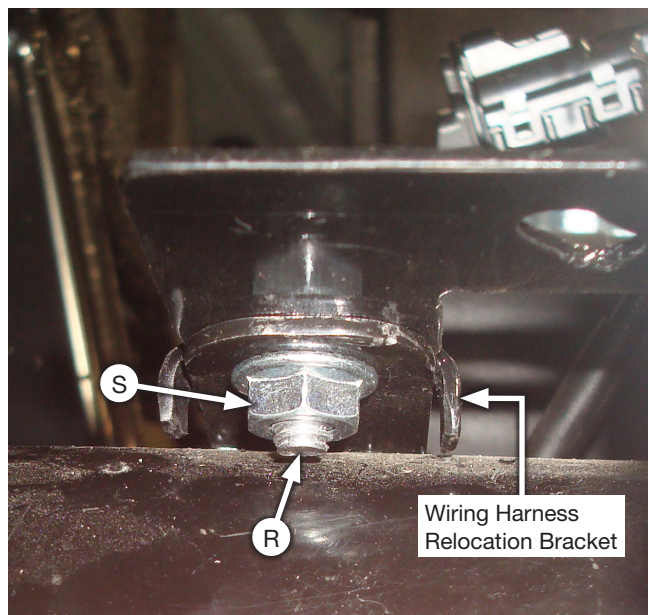

Fig. 7
6. Install the left- and right-hand wiring harness relocation brackets (P and Q) onto the axle brackets the connectors were previously removed from, with the 1/4" hex-head bolt (R) and 1/4" serrated flange lock nut (S). Mount with the flanges on the brackets facing down to lock them in place (Fig. 7). Torque to 65 lb.-in. (7Nm).